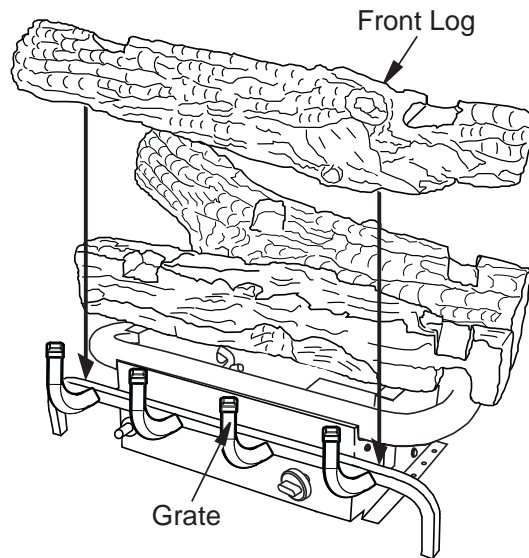

Figure 26 - Installing Front Log
3. Place the front log onto grate as shown in **Figure 26**.